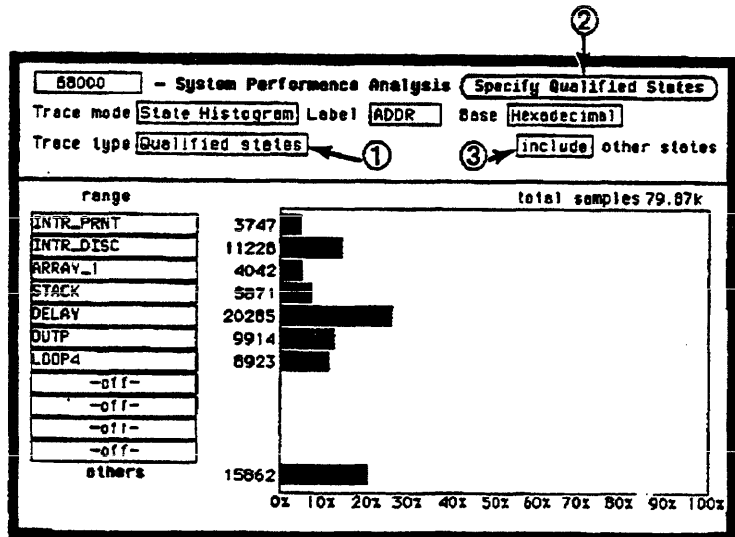

Figure 5-3a. HP 1650A State Histogram Display.
You can qualify the data sampled and sorted in the State Histogram by selecting the "Trace type" field and setting it to "Qualified States" (item 1 in figure 5-3a and 5-3b). This creates a new field at the top of the display called "Specify Qualified States."
Select "Specify Qualified States" (item 2 in figure 5-3a and 5-3b) and you will see a pop-up that contains a pattern field for every label defined in the State Format Specification. Use the pattern fields to define the data qualification.
Press RUN to start the State Histogram acquisition. In the HP 16510A/16510B, you should select the Repetitive Run mode. The relative activity over the ranges you defined is displayed as histograms (see figure 5-3a and 5-3b). The "total samples" field shows the total number of data samples displayed in all of the ranges. The number of samples for each range is displayed to the left of each histogram.
To view the activity over the entire range of the label, including activity not covered by the ranges, select the "other states" field and change it to "include" (item 3 in figure 5-3a and 5-3b). Another histogram bar called "other" will appear at the bottom of the display. This will show activity not covered by the ranges. You can toggle include/exclude if the analyzer is stopped or if it is running since it only effects the display and not the data string.